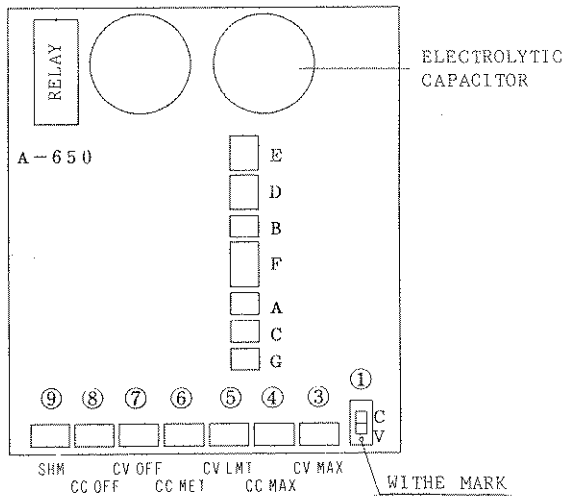

Figure 4-5. Layout of components of PC board A-650
- (2) Turn on the OUTPUT switch. Adjust the CV OFF potentiometer (⑦ in Figure 4-5) so that the digital meter indicates the same value.
- (3) For the models whose rated output voltages are 110 V or lower, turn on the OUTPUT switch and set the output voltage at 17.50 V. For the models whose rated output voltages are 250 V or higher, set the output voltage at 175.0 V.
- (4) Turn off the output switch. Adjust the CV LMT potentiometer ((5) in Figure 4-5) so that the digital meter indicates the same value.
- (1) Press the A (ammeter) switch and turn off the OUTPUT switch.
- (2) Adjust the CC OFF potentiometer ((8) in Figure 4-5) so that the digital meter reads 0 A (zero amperes).
- (3) Connect an ammeter (or a shunt resistor) of an accuracy of 0.2% or better to the output terminal and feed the current (I1) shown in Table 4-3.
- (4) After feeding the current for approximately 20 minutes, adjust the CC MET potentiometer so that the meter indicates the value of output current I1.
- (1) Press the V (voltmeter) switch and turn on the OUTPUT switch.
- (2) Turn both COARSE and \*FINE VOLTAGE setting potentiometers to the clockwise extrem position. Adjust the CV MAX potentiometer ((3) in Figure 4-5) so that the output voltage becomes  $E_0$  (maximum voltage) shown in Table 4-3. (\*: The PAB110-0.6A, PAB250-0.25A and PAB350-0.1A have no FINE VOLTAGE setting potentiometer.)
- (1) Connect an ammeter of an accuracy level of approximately 0.5% to the output terminal.
- (2) Turn the COARSE CURRENT setting potentiometer (including the FINE CURRENT setting potentiometer if the FINE VOLTAGE potentiometer has been modified to it) to the clockwise extreme position. Adjust the CC MAX potentiometer ((4) in Figure 4-5) so that the output current becomes  $I_0$  (maximum current) shown in Table 4-3. (The PAB110-0.6A, PAB250-0.25A and PAB350-0.1A have no FINE setting potentiometer.)
- (2) Increasing gradually the output voltage, adjust the SHM potentiometer ((9) in Figure 4-5) so that the relay trips at the voltage of  $E_1$  shown in Table 4-3.